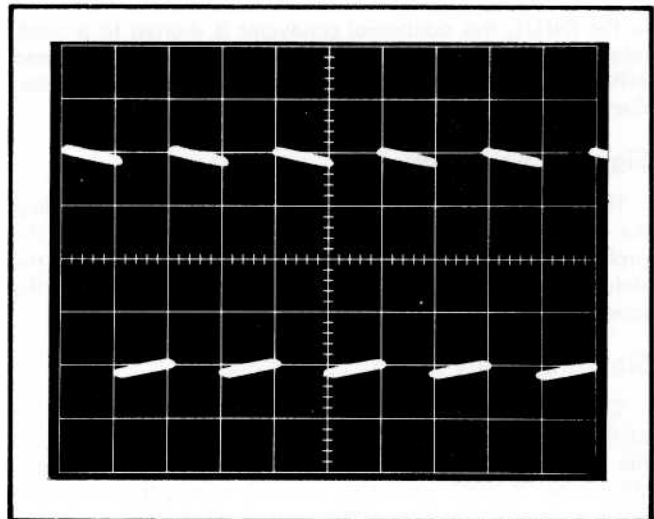

Fig. 2-3. 40 mA Calibrator square-wave.
10. Check the display for four divisions of vertical deflection (see Fig. 2-3).